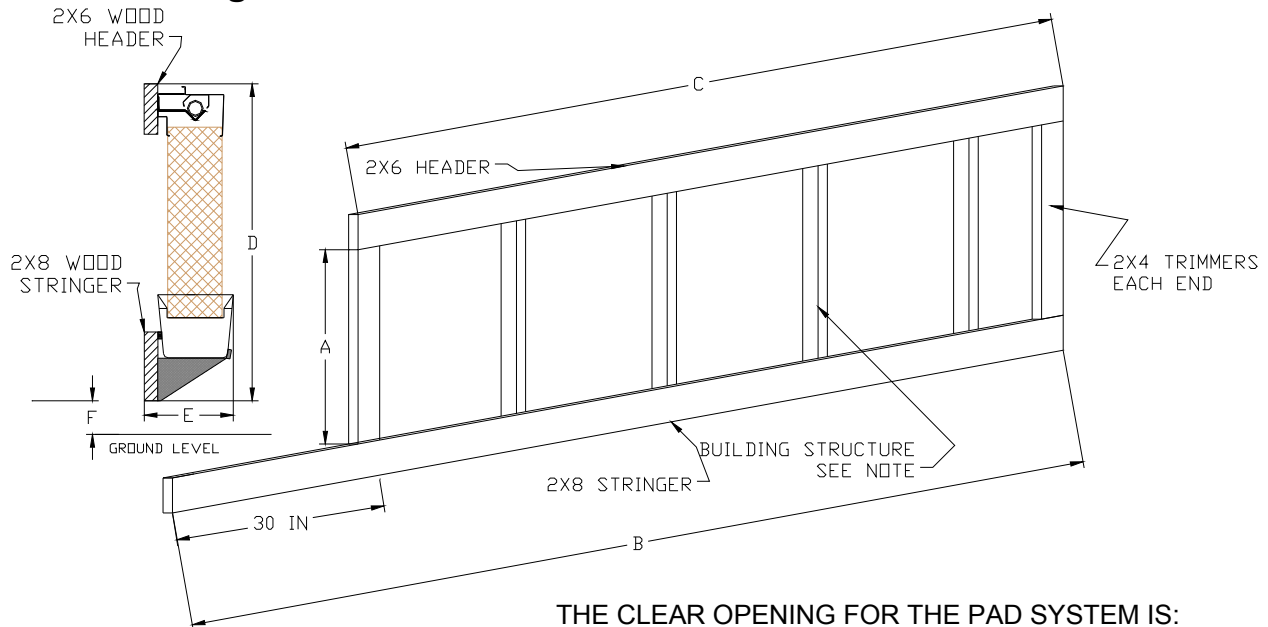

Figure 2
1. **Framing** -If framing is not properly installed as shown in the Installation Instructions, the system will not operate properly. Refer to Section IV B and Figure 2 through 4 and verify the framing has been installed accurately.